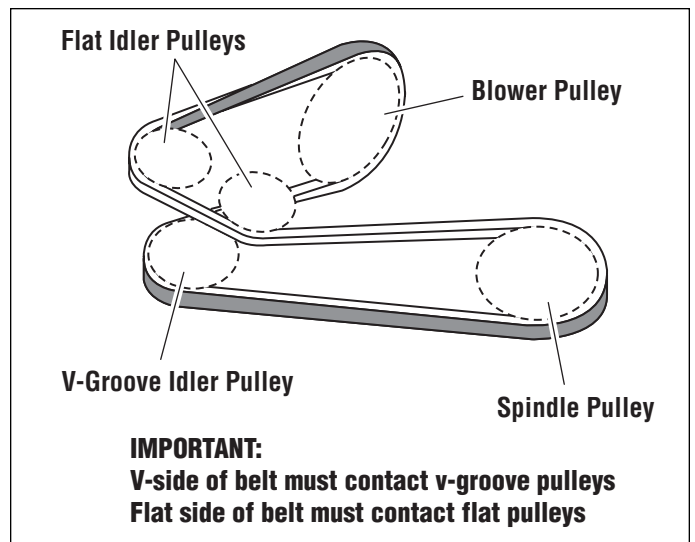

Figure 11. Belt Routing
2. Pull the idler arm lever against the spring to install the drive belt on the spindle pulley (see Figure 11 for belt routing). The tension idler should be approximately 3/4" - 1" (1,90 - 2,54cm) away from the blower housing when belt is installed. If not, remove the belt shield and drive belt from the spindle and reposition the top idler pulley in the outside row of holes until the measurement is achieved.